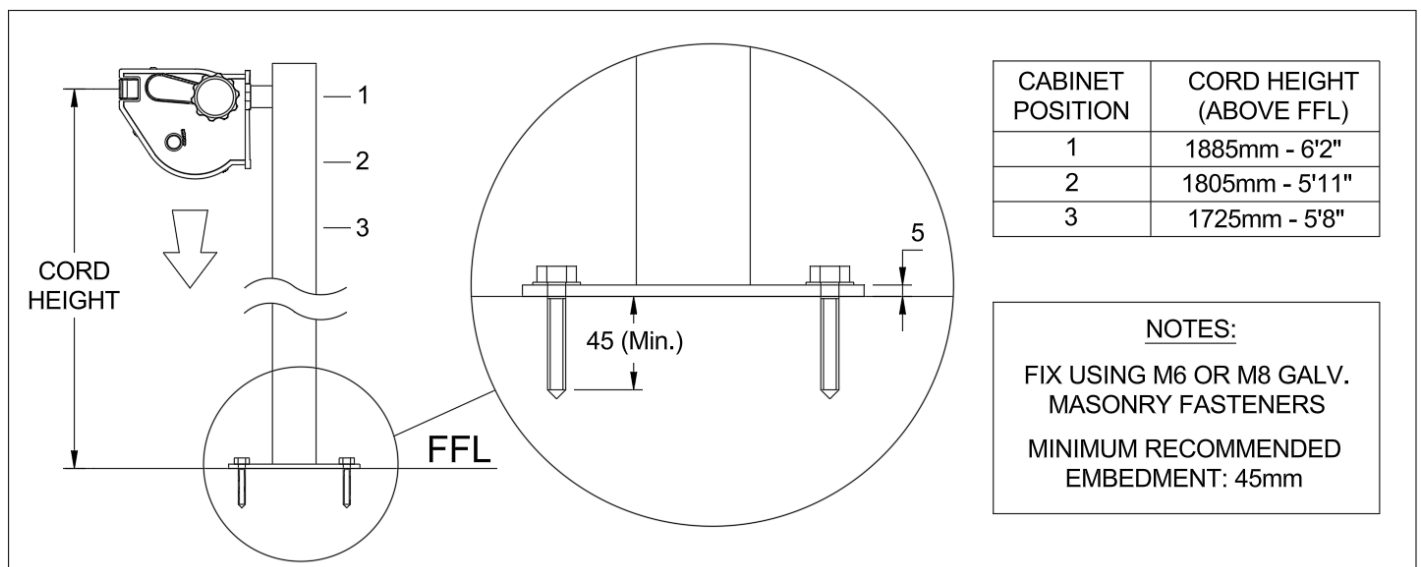

Fig. 3 Installation of Plated Post.
4. Austral recommends using M6 (minimum) or M8 fasteners. Recommended minimum embedment of fasteners is 45mm. (Fig 3).